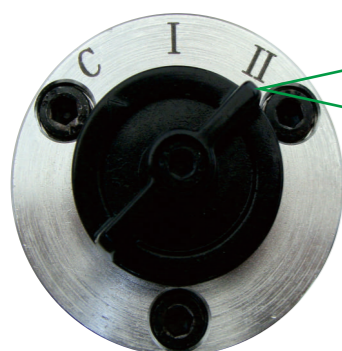

Fig. 7 Gas ballast valve knob
In the presence of permanent gases, the gas ballast valve knob (5/ Fig.1) should be switched off (as Fig.7 gas ballast valve knob arrow C below). It may cause the rise of ultimate pressure (decrease of ultimate pressure) if open the gas ballast valve (5/ Fig.1).
- When the vacuum system contains a small amount of condensable gas, open the gas ballast valve (refer to Fig 7. gas ballast valve arrow I or II), It can pump a small amount of condensable gas effectively. Close the gas ballast valve when the vacuum system pressure reduced to a certain value.